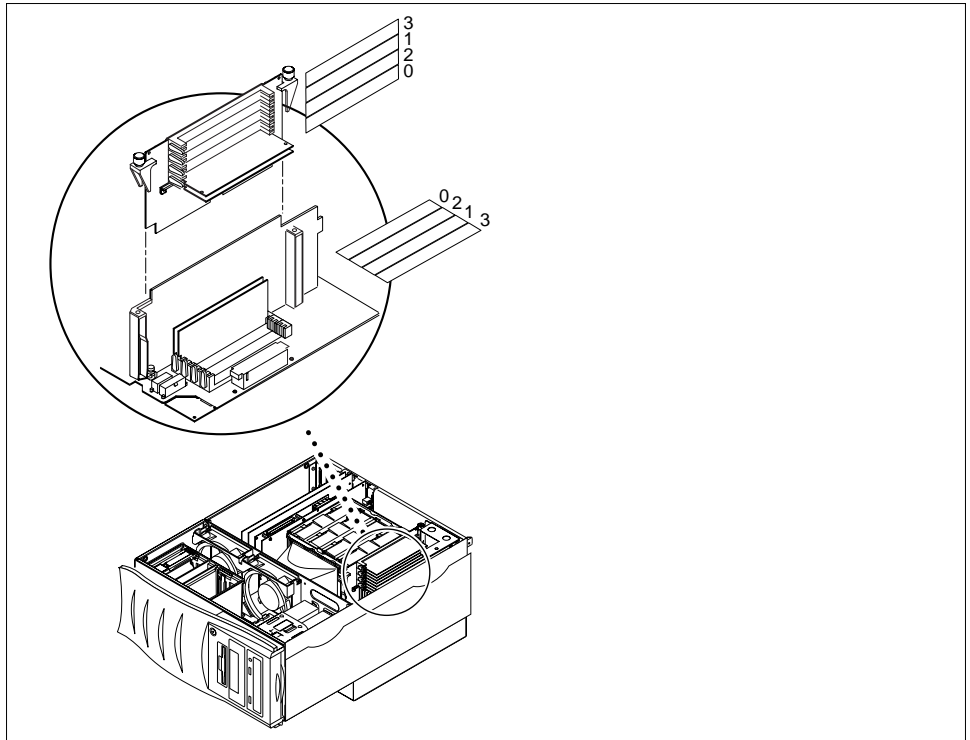

FIGURE 9-14 DIMM Bank Arrangement
- a. Using a No. 2 Phillips screwdriver, remove the three screws securing the motherboard to the chassis backpanel (FIGURE 9-14).**
b. Using a No. 2 Phillips screwdriver, replace the three screws that secure the motherboard to the chassis back panel, and the single screw connecting the motherboard groundplane to the chassis (FIGURE 9-14).